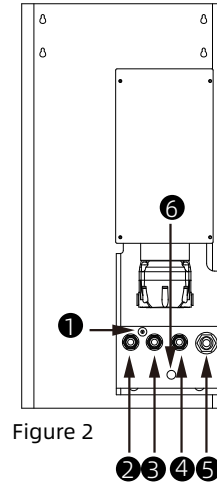

Figure 2
- 2.2 Installation of water inlet and outlet joints, as shown in Figure 2.